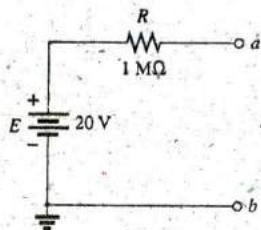

FIG. 6.113
44. Given the configuration in Fig. 6.113: